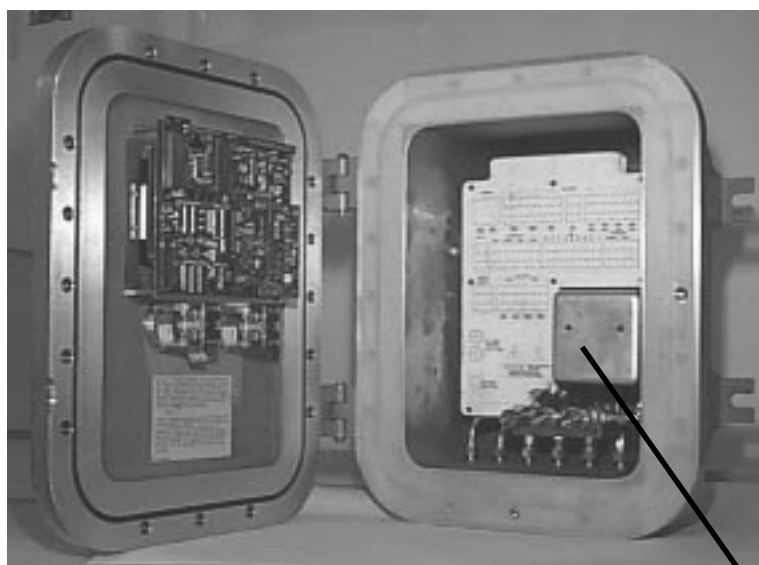

Figure 5-5: Location of Cell Compartment
The Thermal Conductivity Cell, with its Heater and Thermistor, is mounted inside the insulated cell compartment, just behind the analyzer's front panel access door. To remove the one of these components, you must first slide the entire Cell Compartment out of the analyzer through the front panel access door as described in the procedure below. Figure 5-5 identifies the five screws that must be removed in order to remove the Cell Compartment.
- c. Remove the Cell Compartment retaining screws identified in Figure 5-5. You will have to unlatch and swing open the front panel door to remove the front screws.